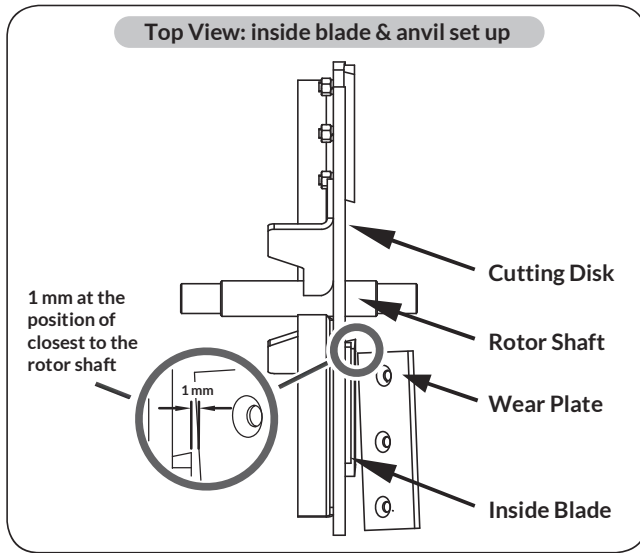

Figure 19
3. Use a stick to rotate the cutting disk to move the inside knife next to the wear plate. Put the 1mm gap gauge in the clearance between the inside blade and the wear plate. Slide it at the position of closest to the rotor shaft. Keep the clearance 1mm. (See **Figure 19**)